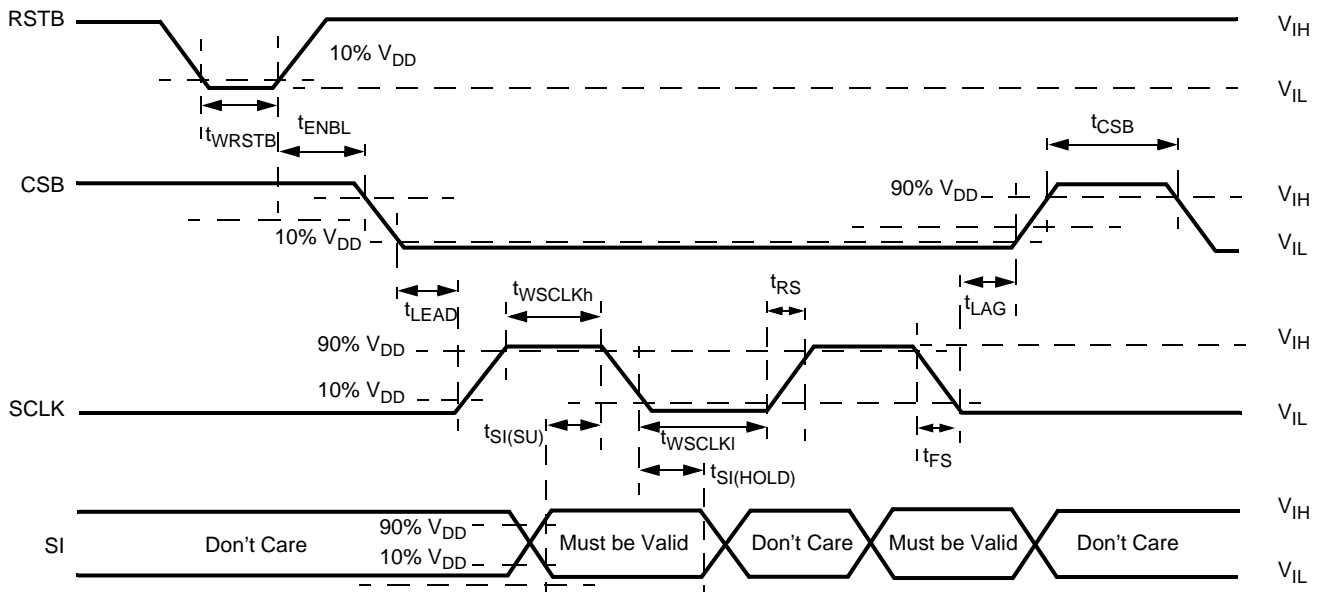

Figure 7. Timing Requirements During SPI Communication
Serial input (SI) data bits are shifted in at this pin. SI data is read on the falling edge of SCLK. 16-bit data packages are required on the SI pin (see Figure 7), starting with bit D15 (MSB) and ending with D0 (LSB). All the internal device registers are addressed and controlled by a 4-bit address (D9-D12) described in Table 10. Register addresses and function attribution are described in Table 11. The SI pin is internally connected to a pull-down current source,  $I_{DWN}$ .